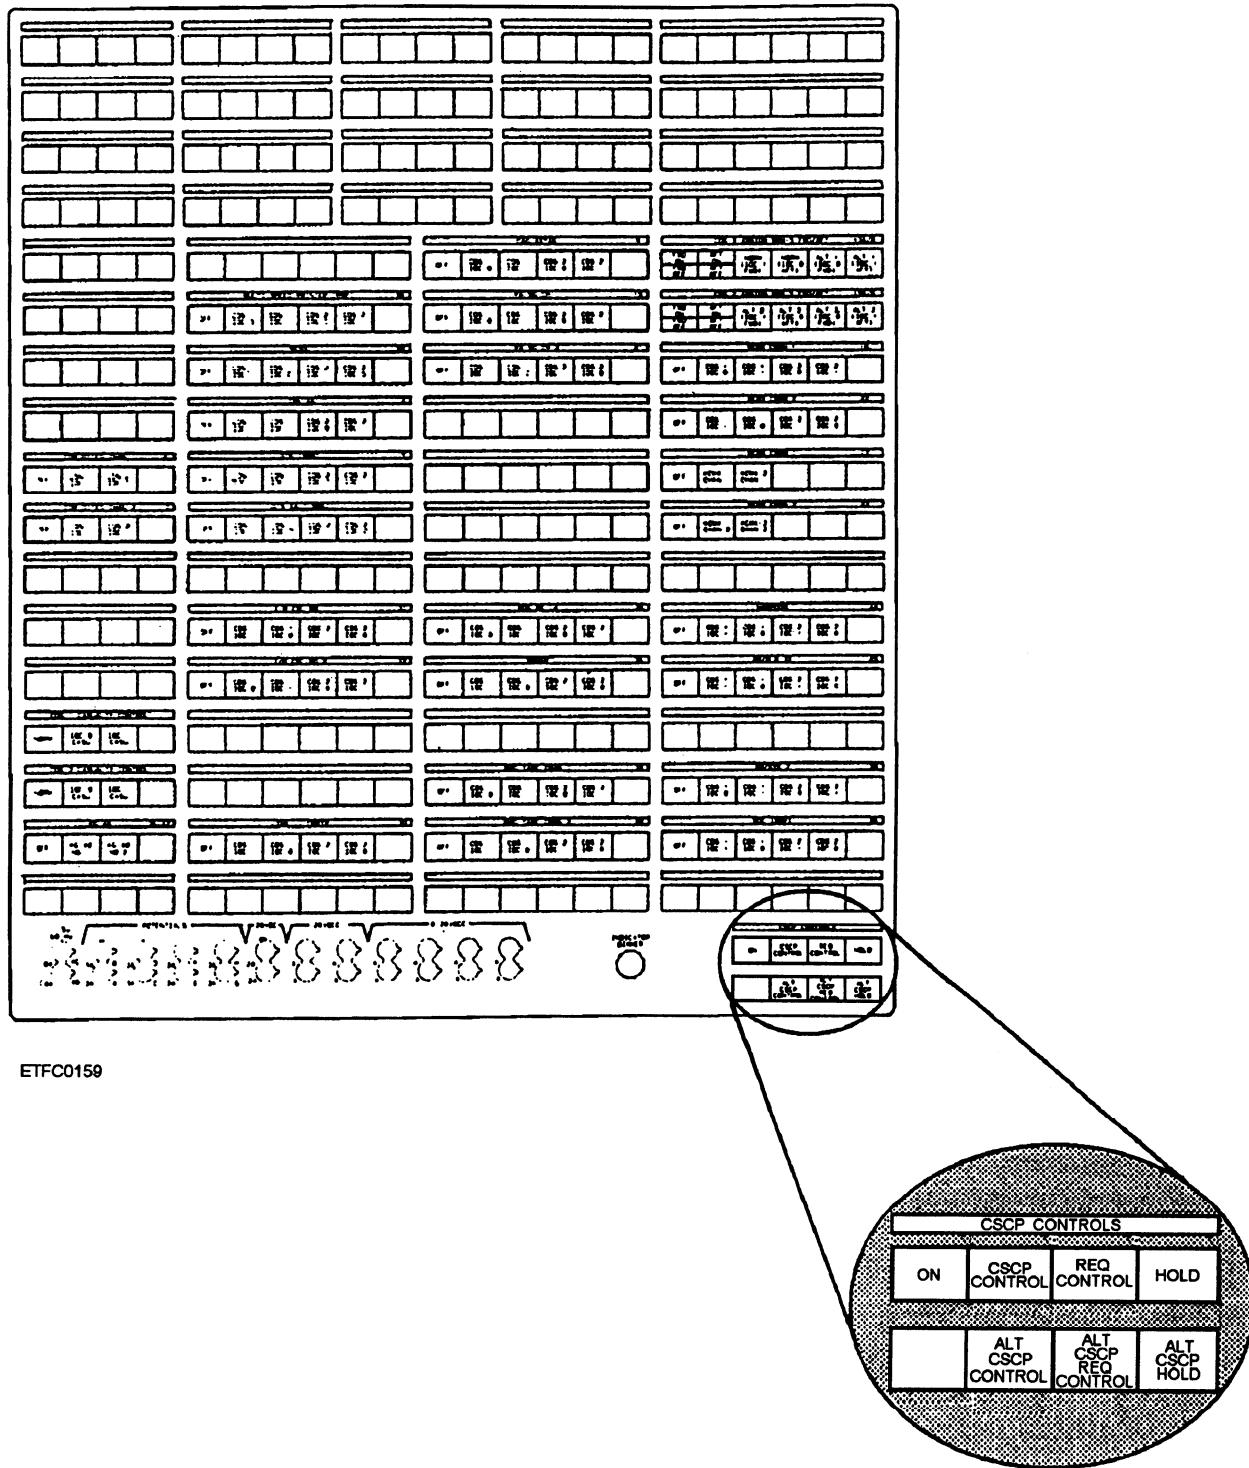

Figure 13-27.—CSCP controls and indicators.
front panel (figure 13-27). The CSCP will generate a control signal to the appropriate DFCS linear switch assembly, which will respond with a status signal when it is in the assigned position. The PBI will light when the switch is in the commanded position.
switch position is in the ON position. Red indicates the switch is in the OFF position. Green indicates the switch is in the NORMAL position, while yellow indicates the switch is in the ALTERNATE position. Figure 13-27 shows an example of a typical CSCP configuration. The number and functional assignment of PBIs vary from ship to ship.
The PBIs in the lower right corner of the CSCP front panel shown in figure 13-27 are used to apply power to the CSCP PBIs (ON), to indicate current CSCP control status (CSCP CONTROL or ALT CSCP CONTROL), and to transfer control from the controlling CSCP to the alternate CSCP (REQ CONTROL, HOLD, ALT CSCP REQ CONTROL, and ALT CSCP HOLD). Manual PBI actions are required at both CSCPs to transfer control between panels.